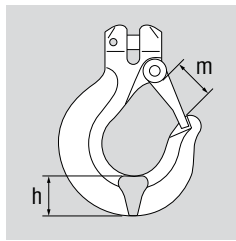
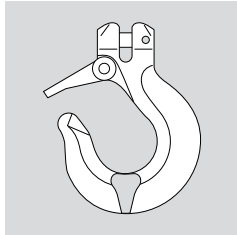

Fig. 13.4: Widening on the hook/
Fig. 13.5: Widening on the hook/
- Evidence of an expansion of the hook, such as noticeable enlargement of the jaw size. The enlargement of the jaw size should not exceed 10% of the nominal value (catalogue dimension "m" Fig. 13.4) or be such that the hook safety latch does not trip (Fig. 13.5)
- Wear and tear (thickness decrease) in the hook base $\geq 5\%$ (catalogue dimension "h" Fig. 13.4)